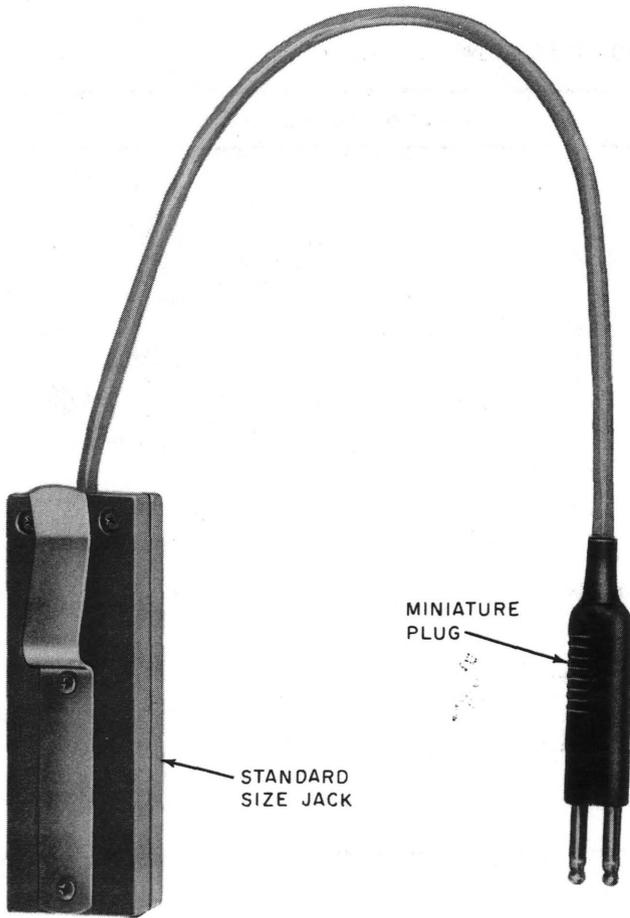

Fig. 1—KS-21386-L1 Miniature Plug Adapter
2.03 A KS-21386, L1 miniature plug adapter (Fig. 1) is available to utilize test cords which have a standard size end finish (464A plug) for use with miniature jacks. The W2FM, W4BR,